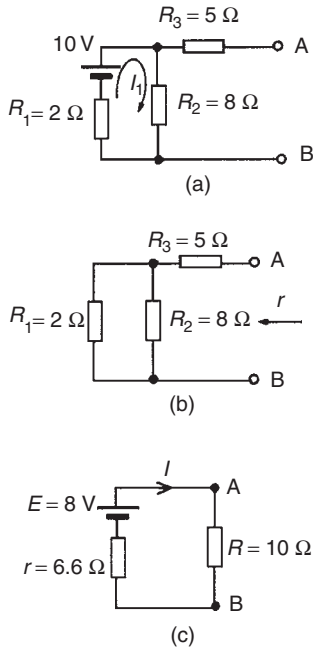

Figure 13.38
- (i) The  $10 \Omega$  resistance is removed from the circuit as shown in Fig. 13.38(a)
- (iii) Removing the source of e.m.f. gives the circuit of Fig. 13.38(b) Resistance,
- (iv) The equivalent Thévenin's circuit is shown in Fig. 13.38(c)